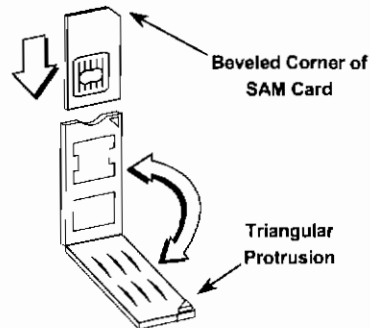

Figure 18 Inserting a SAM Card
8. Slide the SAM card into the cardholder, as displayed in Figure 18.